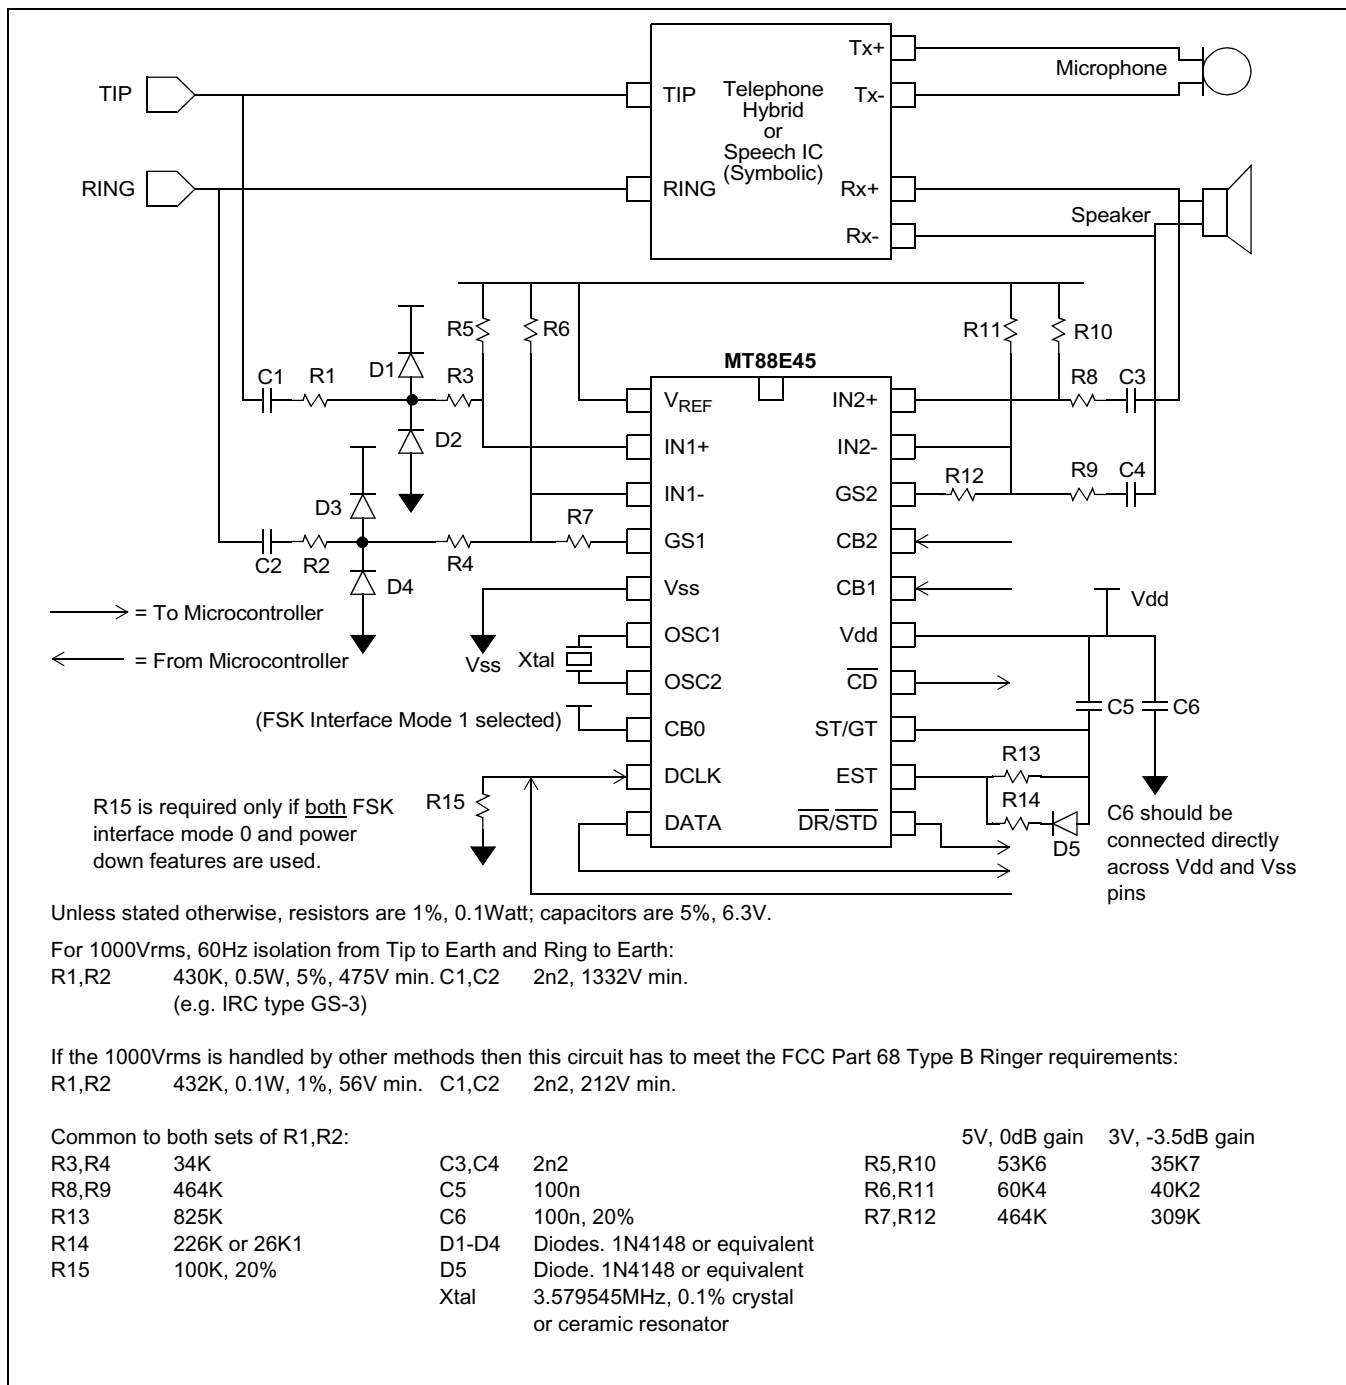

Figure 7 - Application Circuit: Bellcore MEI Compatible Type 2 Telephone
In power down mode both input op-amps, V_{REF} and the oscillator are non functional. DCLK becomes an input because to select the power down state CB0 is 1 which will select FSK interface mode 1. If the application uses FSK interface mode 0 and the MT88E45 needs to be powered down then a pull down resistor should be added at the DCLK pin to define its state during power down (R15 in Figure 7). When the MT88E45 is powered down DATA, $\overline{DR/STD}$, CD are high; EST and ST/GT are low.
- For the GS1 op-amp, start with the 0dB gain setting resistor values of $R5_{0dB}$, $R6_{0dB}$ and $R7_{0dB}$. In Figure 7 these values are 53K7, 60K4 and 464K respectively. Keep C1,C2,R1,R2,R3,R4 as in Figure 7 to maintain the highpass corner frequency constant for all gain settings.